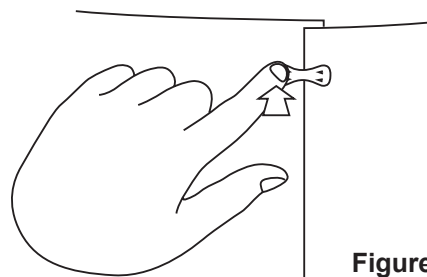

Figure 15.
- Push down on the other end of the clip once the carbon pre-filter is stretched tight to lock the clip into place as shown in figure 15. Release clip, it should hold tight on both ends of the carbon pre-filter keeping it together.